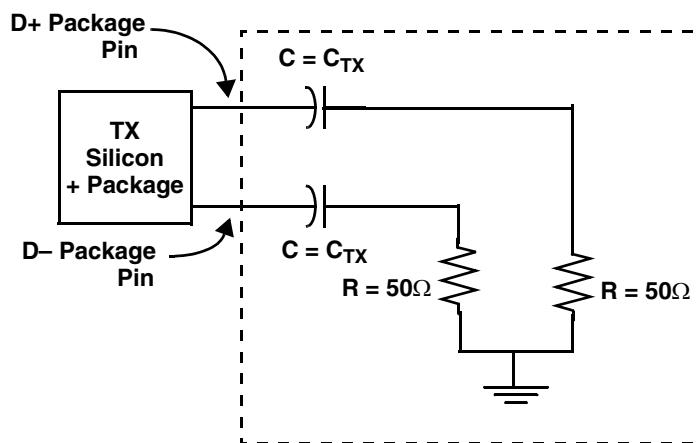

Figure 47. Compliance Test/Measurement Load
- ² Specified at the measurement point into a timing and voltage test load as shown in Figure 47 and measured over any 250 consecutive Tx UIs.
Transmitter and receiver AC characteristics are measured at the transmitter outputs (SD_TXn and SD_RXn) or at the receiver inputs (SD_RXn and SD_RXn_B). The AC timing and voltage parameters must be verified at the measurement point, as specified within 0.2 inches of the package pins, into a test/measurement load shown in Figure 47.